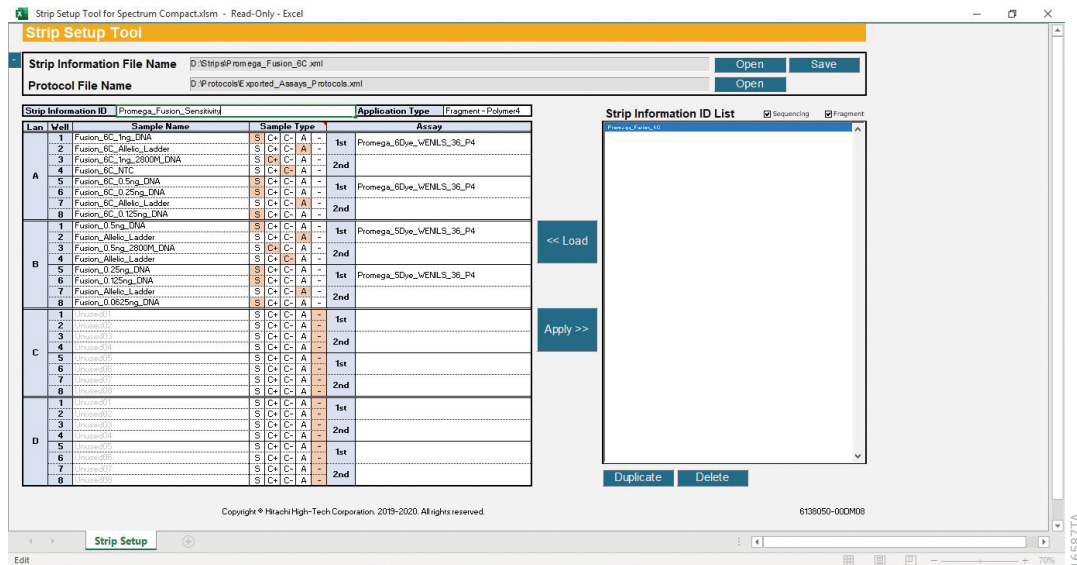

Figure 219. Strip Setup Tool for Spectrum Compact with edited new Strip Information ID.
- Edit the information for the new strip following the instructions for Creating New Strip Information (Section 13.7.2). If desired, a new Strip Information ID can be assigned (Figure 219).